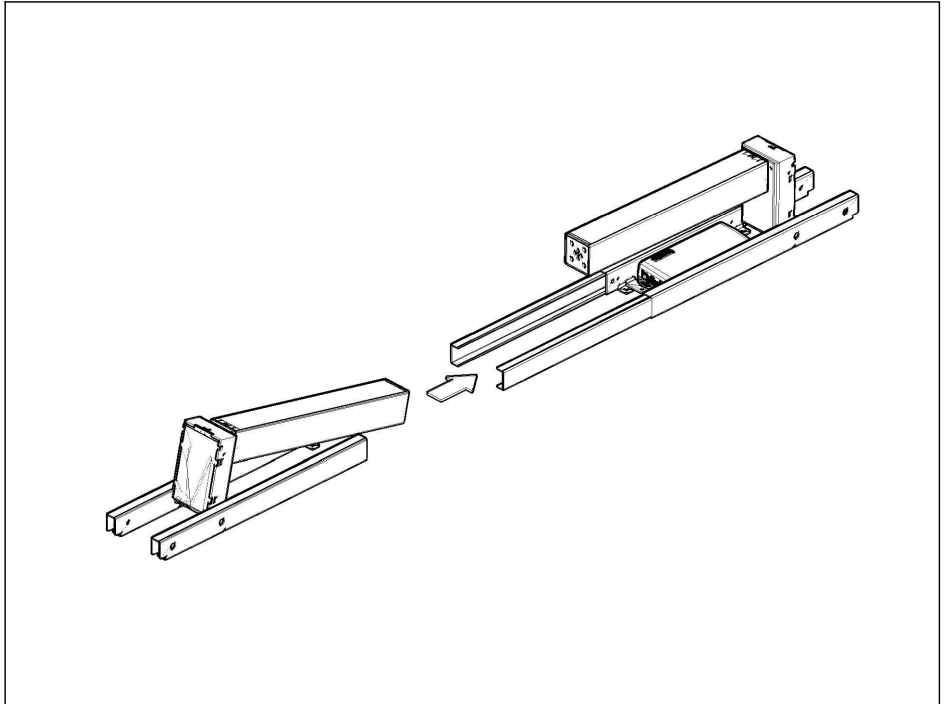

FIGURE 5
5. Put back the half of the main frame by sliding it into the channels (Figure 5).